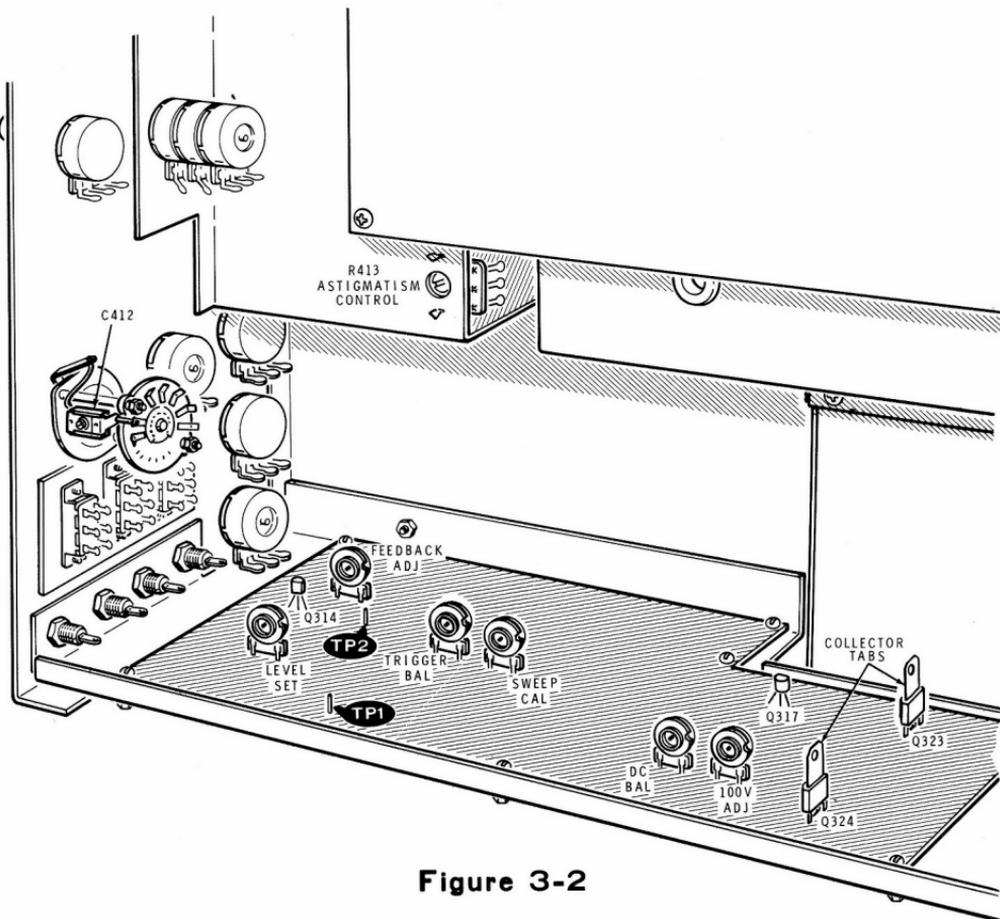

Figure 3-2
- () Refer to Figure 3-2 (fold-out from Page 3-53) and connect the common voltmeter lead to the Oscilloscope chassis and the positive lead to TP1 (base of transistor Q304). Set the voltmeter range to +20 volts. Then adjust the LEVEL SET control for zero volts. Reset the voltmeter range to +2 volts; then again adjust the LEVEL SET control for zero volts.
- () Refer to Figure 3-2 and adjust the TRIGGER BAL control until the signal on the CRT is stabilized or "synchronized." This will be a condition where the sine wave displayed is steady and unshifting.
- () Adjust the TRIGGER BAL control (Figure 3-2) until the signal on the CRT locks in. Switch the SLOPE switch between the “+” position and the “-” position while you further adjust the TRIGGER BAL control until the trace starts at the same point in both switch positions.
- () Work the SLOPE switch up and down while observing the trace on the CRT. The trace should start an equal distance above and below the centerline of the graticule. If it does not, adjust the LEVEL SET control (Figure 3-2) until the traces for the switch positions are the same distance above and below the centerline.
- () Adjust the SWEEP CAL control (Figure 3-2) for a display of one cycle on the CRT. NOTE: The accuracy of the time base is directly related to the accuracy of the 1000 Hz input signal.